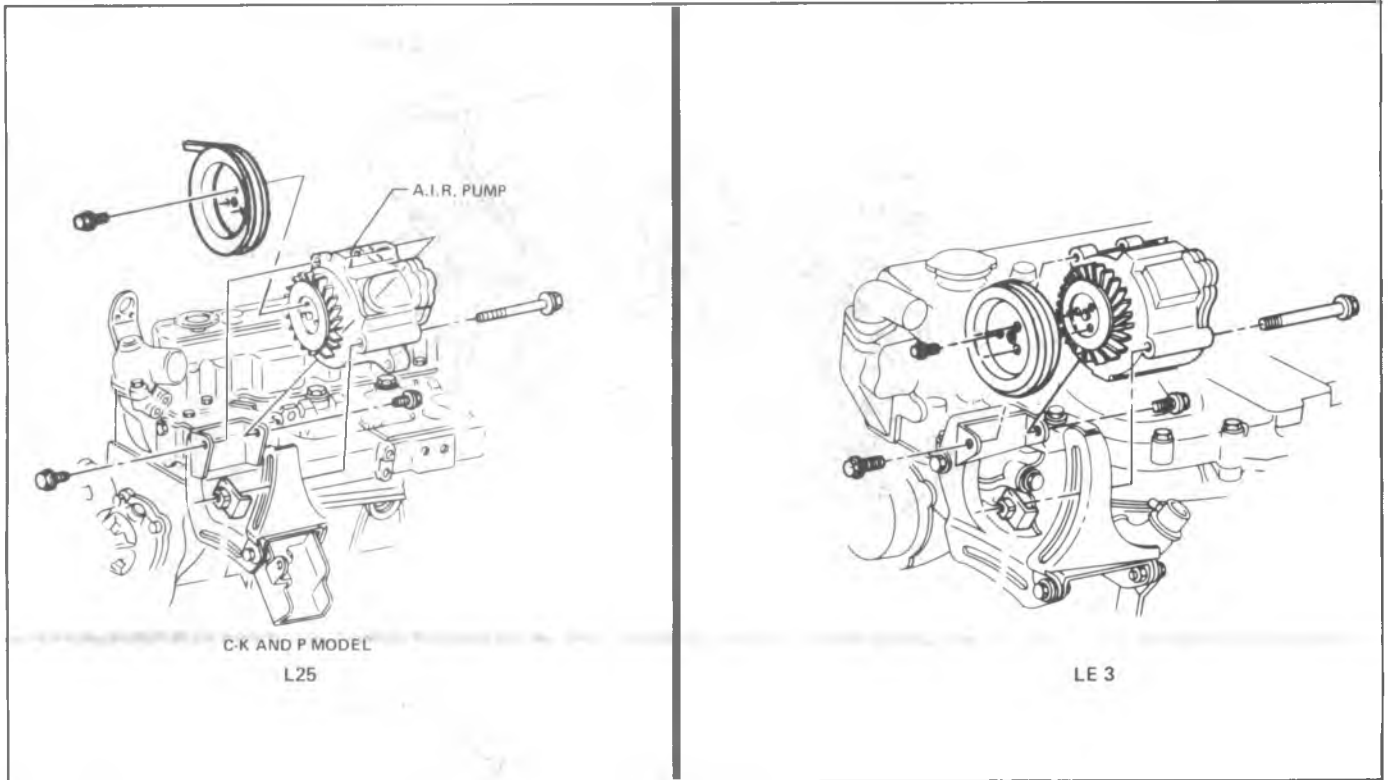

Fig. 6E-22--Air Pump and Pulley-L6
5. Install pump pulley bolts and tighten equally to 9 N·m (30 in. lbs.). This will compress the centrifugal filter fan onto the pump hub (Fig. 6E-24). Do not drive filter fan on with a hammer.
#### Inspection and Replacement (Fig. 6E-25 and 26)